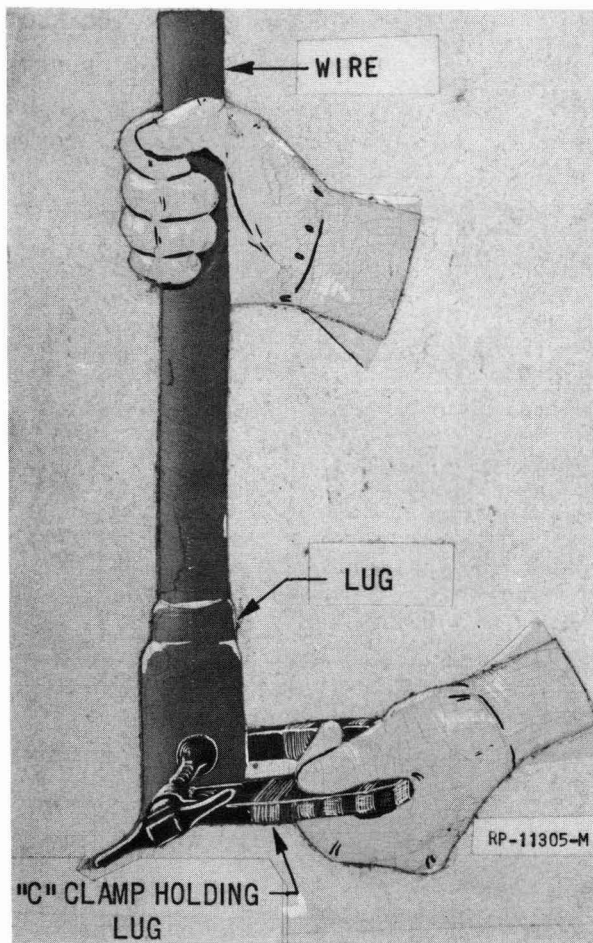

FIG. 1 PROPANE TORCH - R-3105
2.26 Tape R-3134 propane cylinder when used near electrically alive equipment or when splicing live leads. Apply tape to bottom and extend up side of cylinder to safety valve. Do not tape over safety valve. See Figure 1.
4.22 Face the torch in a safe direction (See Figure 1) and open the valve slowly until the sound of escaping gas can be heard. Ignite the gas with a cup type flint lighter (R-2137). Adjust the flame as required. The blue cone at the center of the flame should be about 1-1/2 inches long for the best efficiency. The size of the flame depends on the size of the lug to be sweated and is determined best by experience.